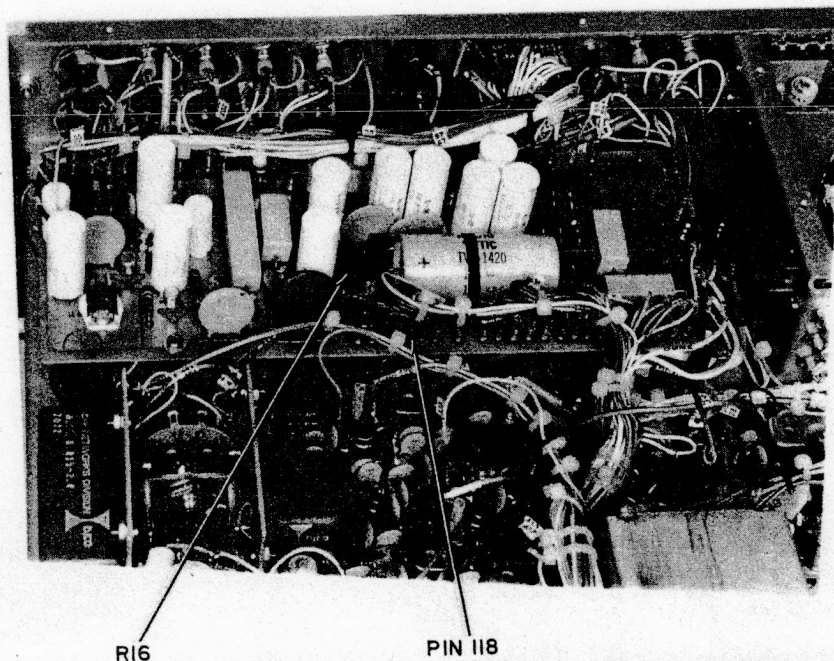

Figure 5-1. Location of R16 on Power Supply Board
1. With a VTVM connected to Power Supply board pin 118 (see Figure 5-1), adjust Power Supply board resistor R16 (see Figure 5-1) for an indication of exactly -15.0 VDC. When the